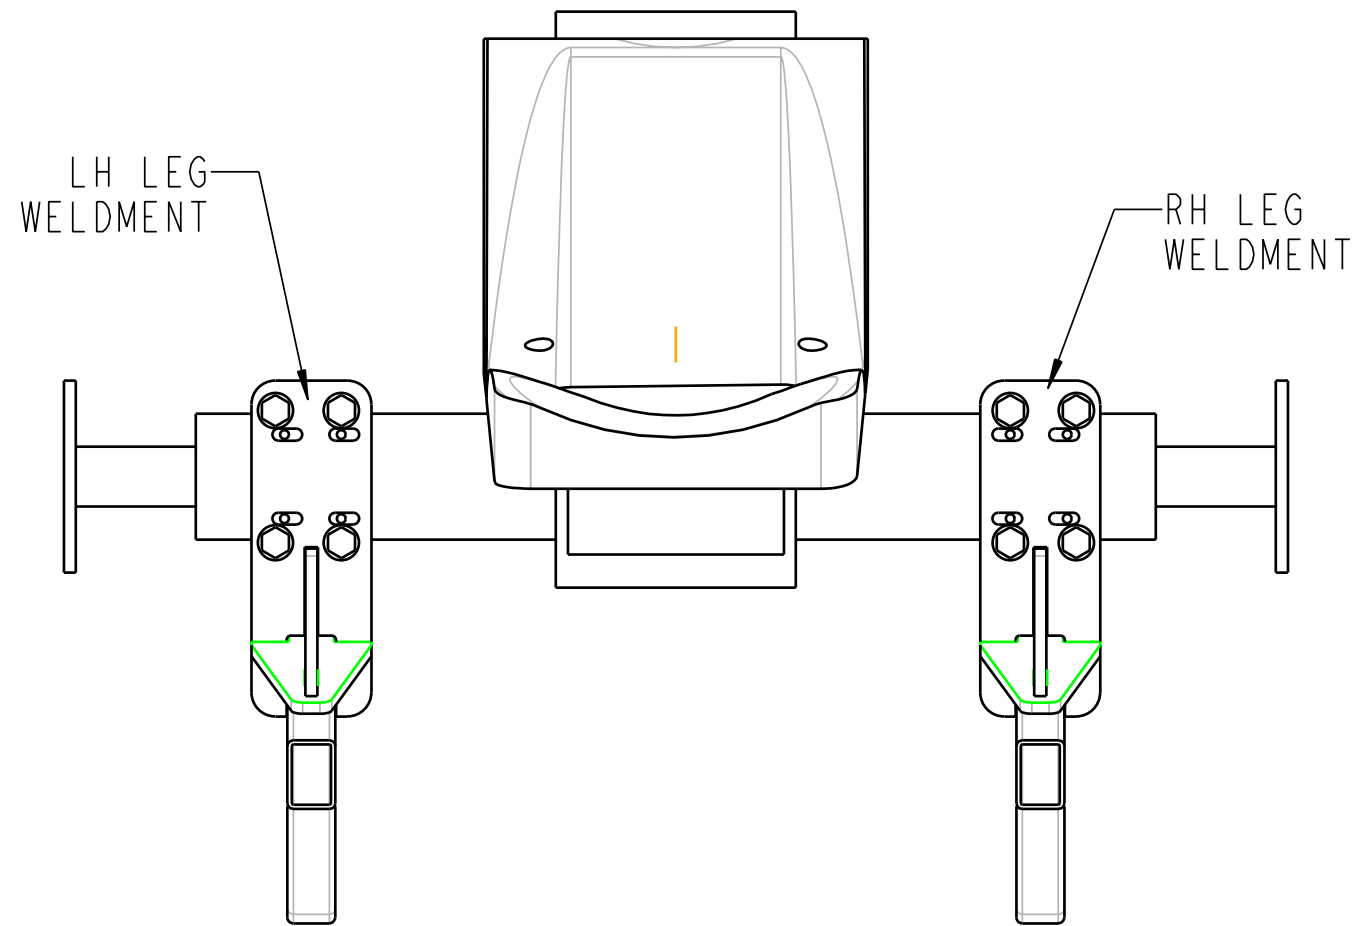

FIGURE 1A
Lower ROPS Leg Weldments Installation (Refer to Figure 1A & 1B for Steps 2-5)
- 3) Identify left and right leg weldments (See Figure 1A).